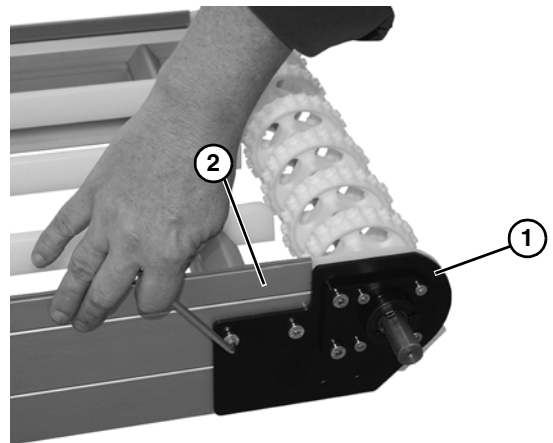

Figure 42
*When reinstalling the drive spindle tail assembly, the drive tail assembly (**Figure 42, item 1**) should mate flush with the conveyor frame (**Figure 42, item 2**).*